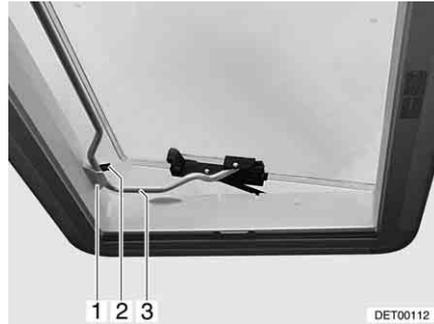

Fig. 67 Heki skylight in ventilation position 2
- Insert the bar (Fig. 67,3) into the holder (Fig. 67,1).
- Place the lever (Fig. 67,2) over the bar.